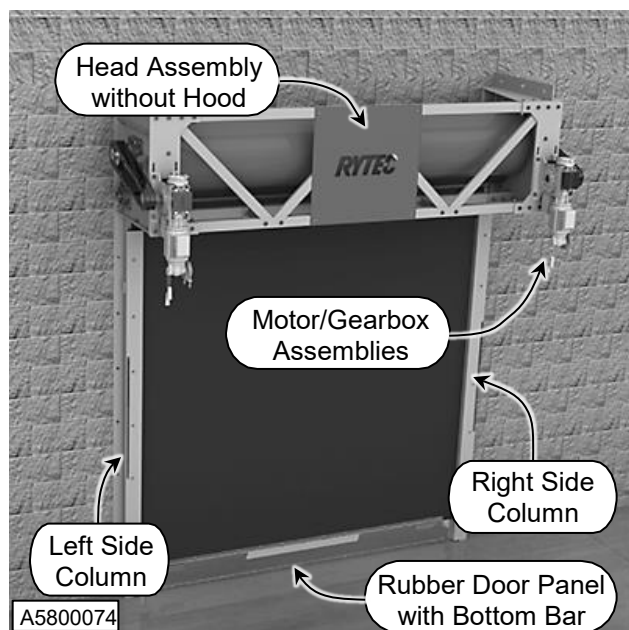

Figure 41
3. To ensure the correct parts are shipped, please include the serial number of your door with the order. The serial number is located on the door in several locations per the "DOOR SERIAL NUMBER(S)" section (See page 1). All these serial numbers must match. (See Figure 41)